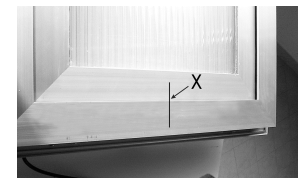

Figure 2
- Pencil in an "X" over the centre line of the window frame (Fig. 2).